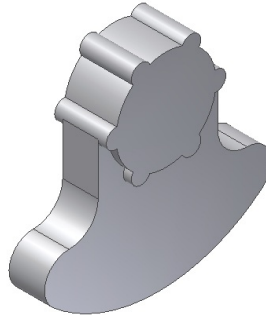

Figure 6-135 Model after creating the join feature
5. Exit the Sketching environment and then extrude the sketch to a distance of 32 mm using the **Symmetric** option. The model after creating the join feature is shown in Figure 6-135.